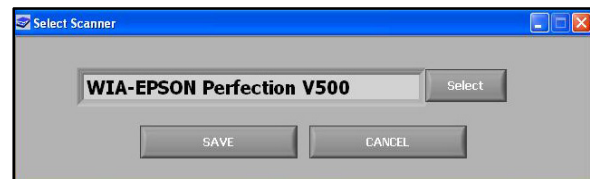

Figure 24. Scanner selection screen.
2. If the scanner is not already displayed (Fig. 24), click on the SELECT button to open-up the *Select Source* screen.